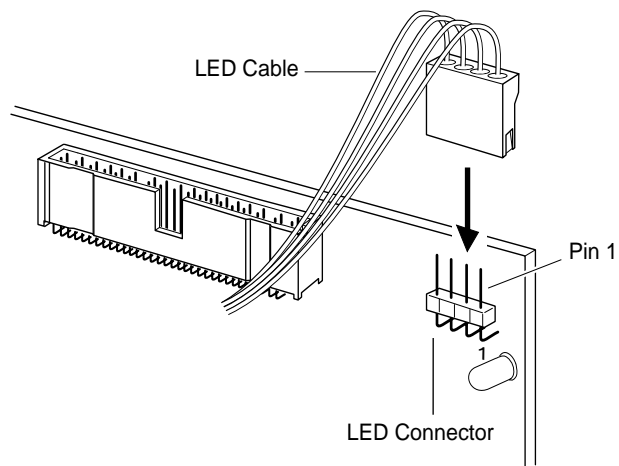

Figure 2-14. SCSI LED Connector
- 2 Connect the LED cable to the SCSI activity LED connector on the host adapter, as shown in Figure 2-14.